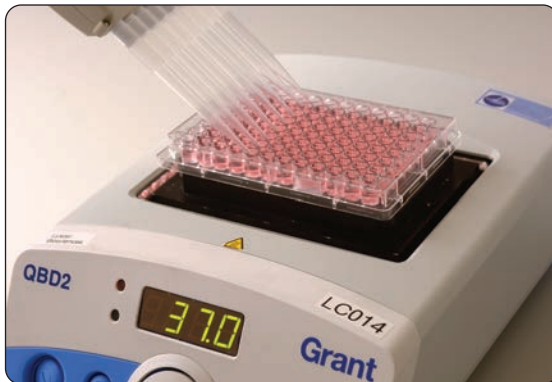

Figure 4: Aliquoting fresh media (+/- MitoXpress® Xtra)
**STEP 1:** Remove spent culture medium from all assay wells and replace with 150µl of fresh culture media (Figure 4). *NOTE: We recommend always leaving two wells (H11 and H12) free from the addition of MitoXpress® Xtra reagent, for use as Blank Controls.* Add 150µl of fresh culture media to these Blank Control wells also.
**STEP 2:** Add 10µl reconstituted MitoXpress® reagent to each well, except those wells for use as Blank Controls. Add 10µl of fresh culture media to these Blank Control wells. *NOTE: If plating a full 96-well plate of assays, we recommend combining Step 1 and Step 2 by adding the 1ml of reconstituted MitoXpress® Xtra reagent to 15ml pre-warmed fresh culture media and using a multi-channel pipette to add 150µl of MitoXpress® Xtra in media stock to each well (Figure 4).* Add 150µl of fresh culture media only (no MitoXpress® Xtra) to the Blank Control wells.